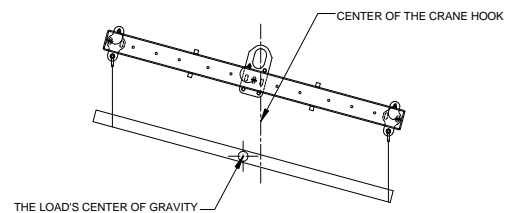

Figure 2 IMPROPER LIFTING
8. **See Figure 2**, the Lifting Beam is not level/horizontal, improper lifting position.